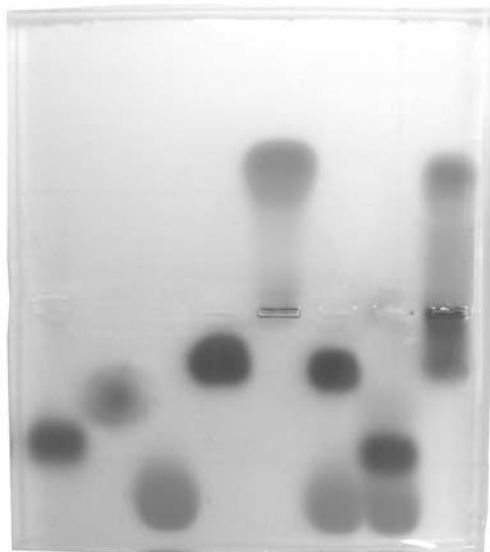

Figure 2. Gel image of expected results.
13. Carefully remove the casting tray and slide the gel into the plastic tray. Gel results should resemble the image (Figure 2) at the right. See the cover of the manual for a color image.